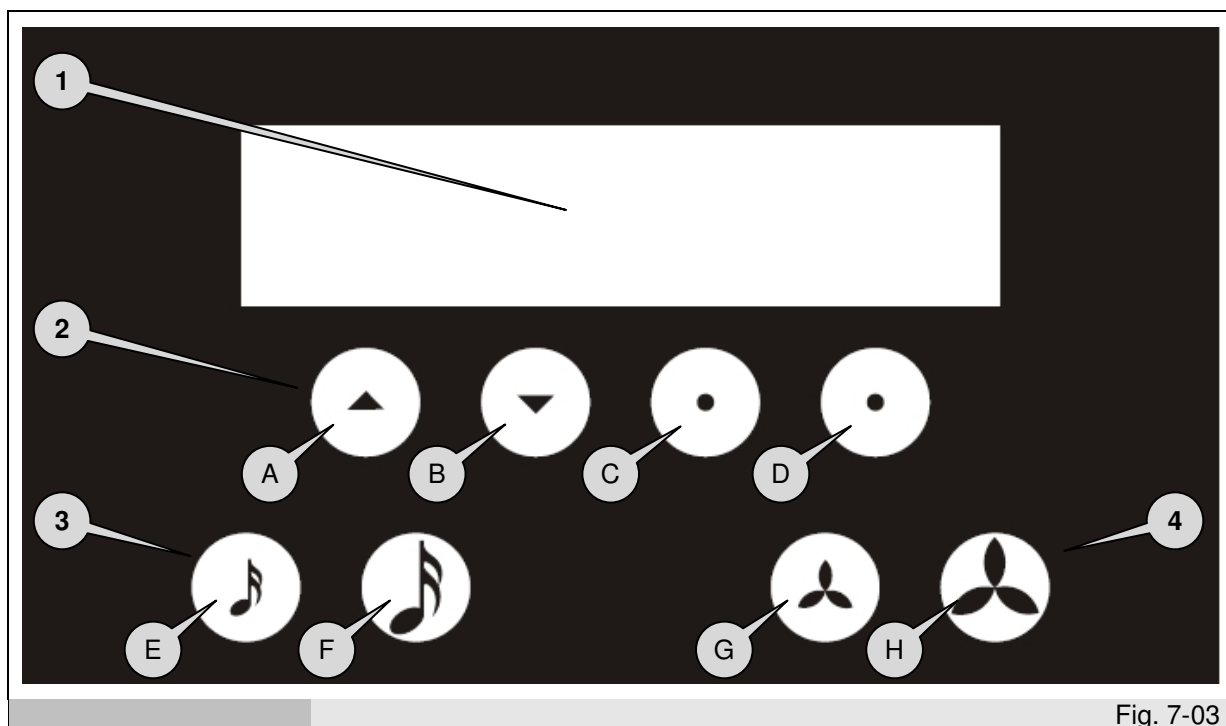

Fig. 7-03
1. Display (ref. 1 fig. 7-03)
2. Multi-function buttons (ref. 2 fig. 7-03)
3. Volume adjustment buttons (ref. 3 fig. 7-03)
4. Fan adjustment buttons (ref. 4 fig. 7-03)
In this phase it is possible to switch off the courtesy light by pressing the 'D' button (refer fig. 7-03) for 5 seconds, to switch the courtesy light back on press the 'D' button for 5 seconds.
Press START ('C' button - refer fig. 7-03) to move to screen 1.
Press 'E' or 'F' buttons (refer fig. 7-03) to move to screen 3.
Press 'G' or 'H' buttons (refer fig. 7-03) to move to screen 4.